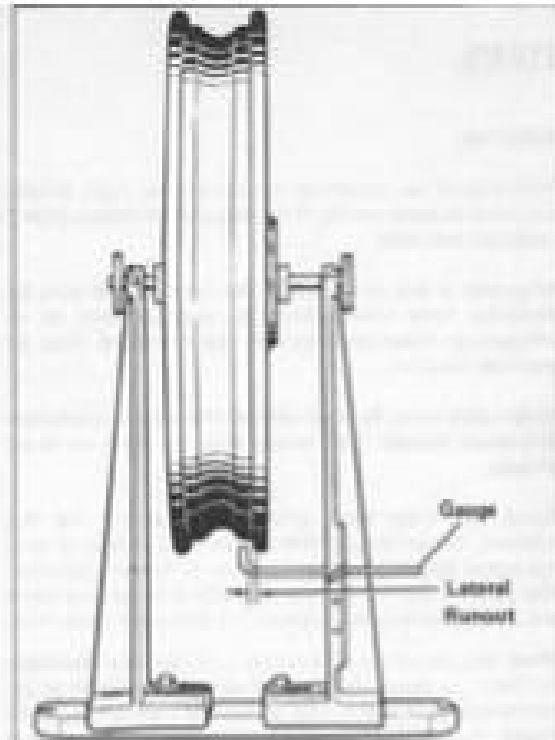

Figure 2-18A. Checking Cast Rim Lateral Runout
1. See Figure 2-18A. Install arbor in the wheel hub and place wheel in the truing stand. To check rim lateral runout, place a gauge rod or dial indicator near the rim bead. If lateral runout exceeds $3/64$ in., replace the wheel.